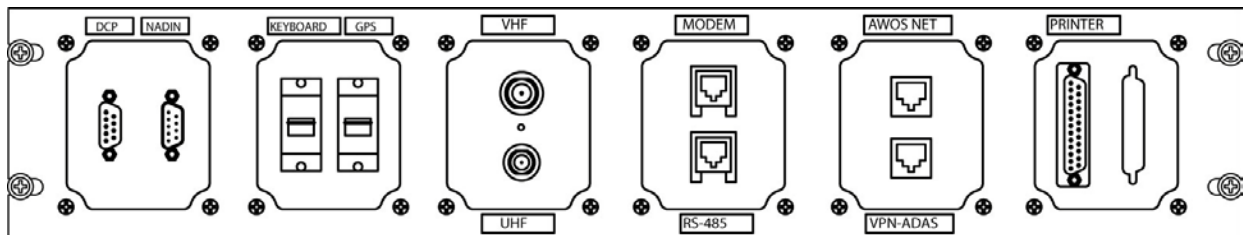
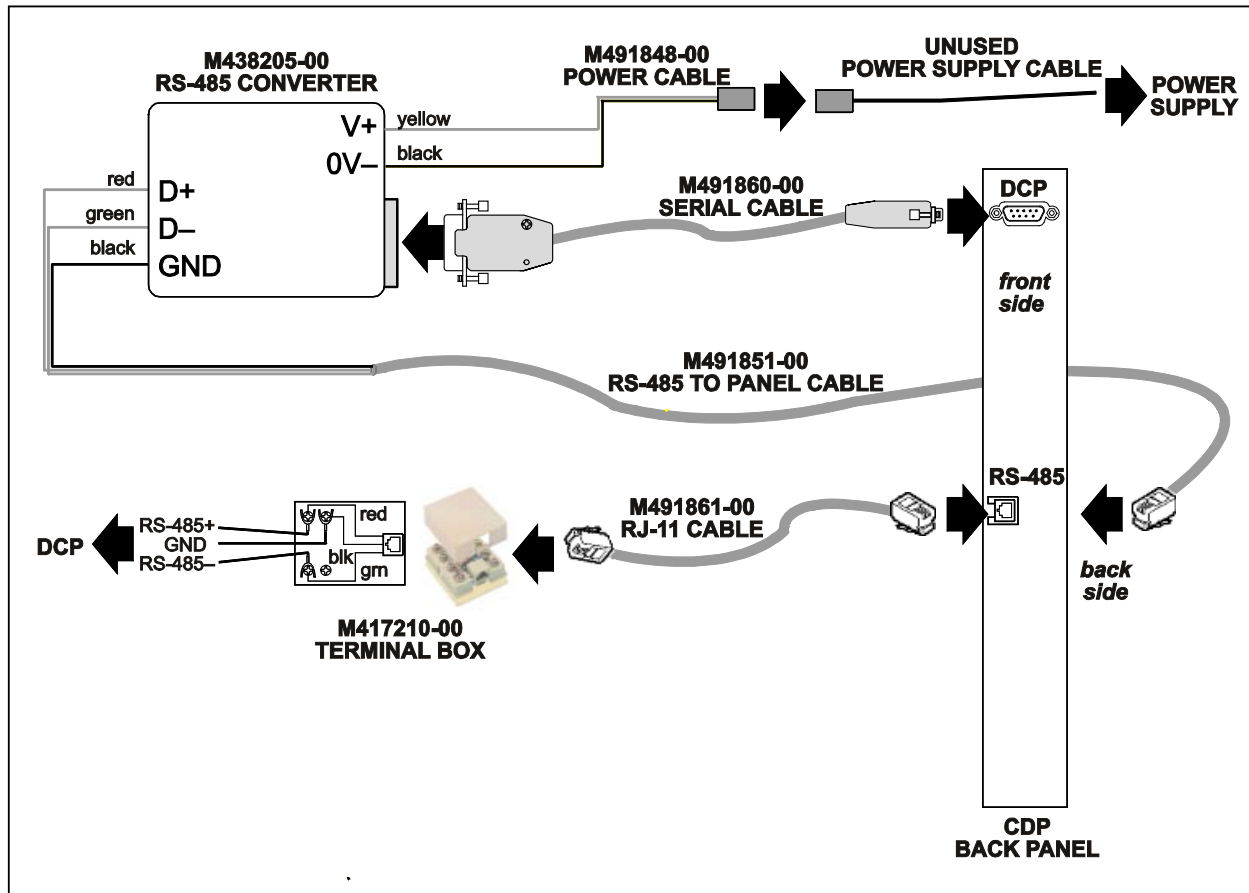
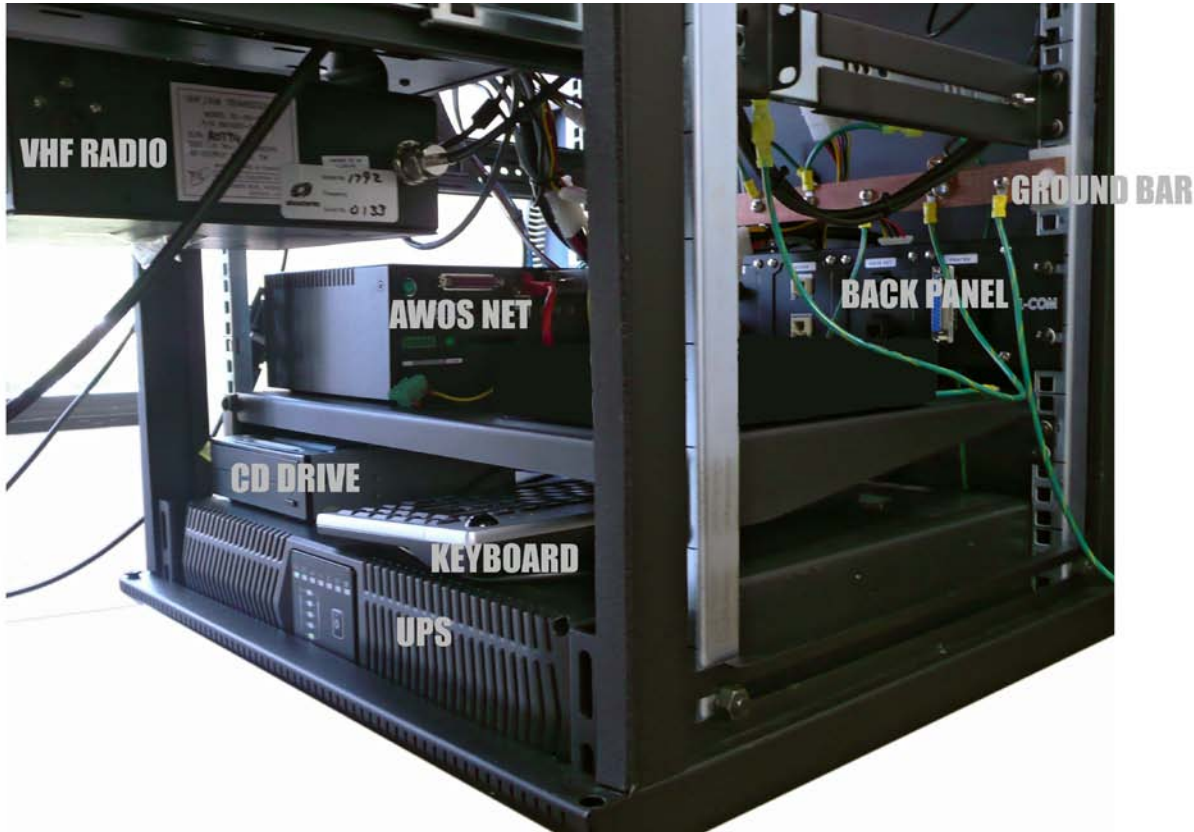

Figure 2. CDP Back Panel Connectors (front end)
Figure 6. RS-485 Landline Converter Installation
Figure 8. CDP Bottom-Shelf Components
Connections to external devices and data sources (such as the AWOS DCP, ADAS, GPS NTP server, and printer), as well as internal components (such as VHF Radio and Modem) are made at the back panel. The back panel is located inside the CDP rack, just above the bottom shelf (see Figure 8). Figure 2 shows the back panel connectors.
The following steps describe how to install the RS-485 converter kit. Figure 6 illustrates the connections.
4. Connect the other end of the cable to the **DCP** connector on the back panel (see Figure 6). *This connection will be modified if the AWOS Net option is installed (see Section 2.4.1.1).*
9. Connect the RJ-11 connector end of the RS-485 cable to the back of the RS-485 RJ-11 jack on the back panel (see Figure 2, Figure 6, and Figure 8).
The CDP rack's bottom shelf (Figure 8) is fixed in place. Components are accessible through the rack's front or side doors. The bottom shelf holds the optional AWOS Net.
2. Affix one side of the Velcro backing to the underside of the AWOS Net Controller. Attach the other side to the bottom shelf. Locate so that the controller is in the front-left of the shelf with sufficient clearance from other components (see Figure 8). Position the connectors so that they face the “inside” or the peripheral interface board.